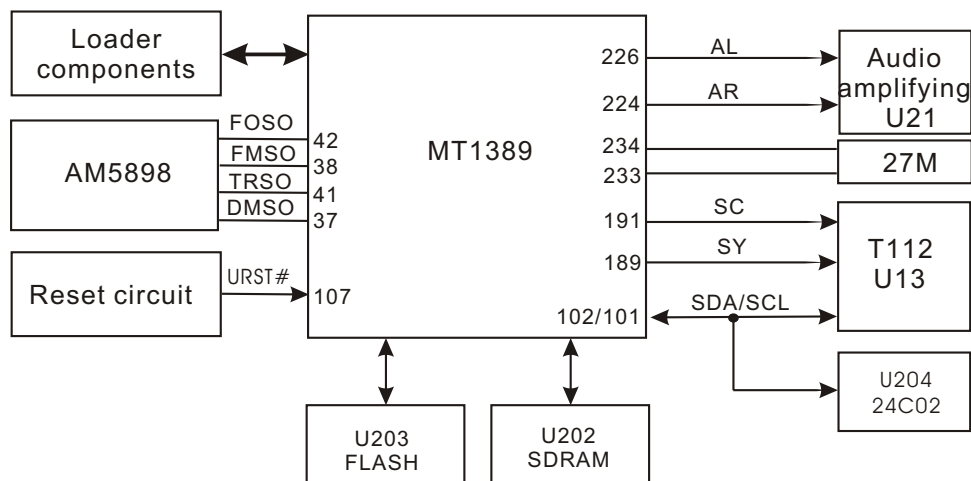

Figure 3.2.12.1 Decode circuit block diagram
1. Decode circuit block diagram is shown as in the following figure 3.2.12.1: